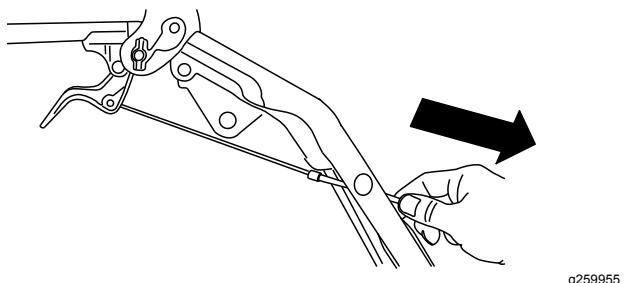

Figure 8
1. Cable clamp (2)
4. Pull the cable jacket down gently until the wheel-clutch lever is down and the slack is out of the cable, then tighten the cable-clamp nut securely (Figure 8).